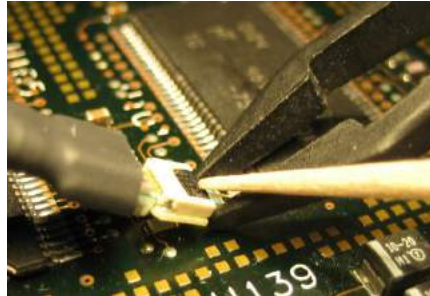

Figure 70 Use a Non-conductive Tool to Close the Latch
- 6 To make a measurement, connect a ZIF probe head to the ZIF tip. Open the tip's latch, insert the probe head into the ZIF socket, and close the tip's latch with a non-conductive tool. See **Figure 70**.